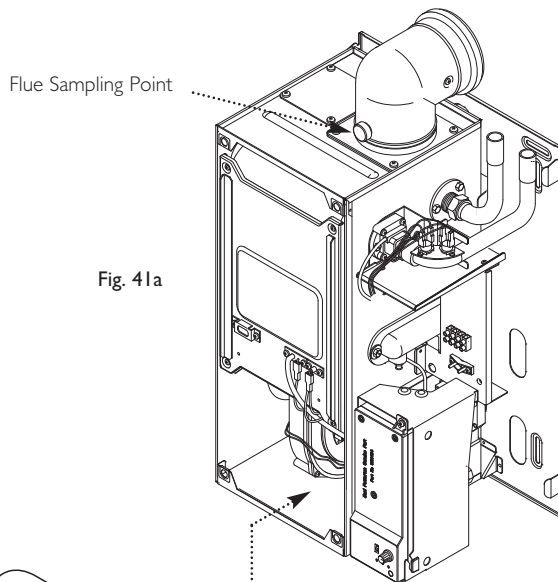

Fig. 41a
11. Check CO/CO² ratio and CO² level at flue sampling point (Fig.41a) is as quoted in Section 4.0 'Technical Data'.